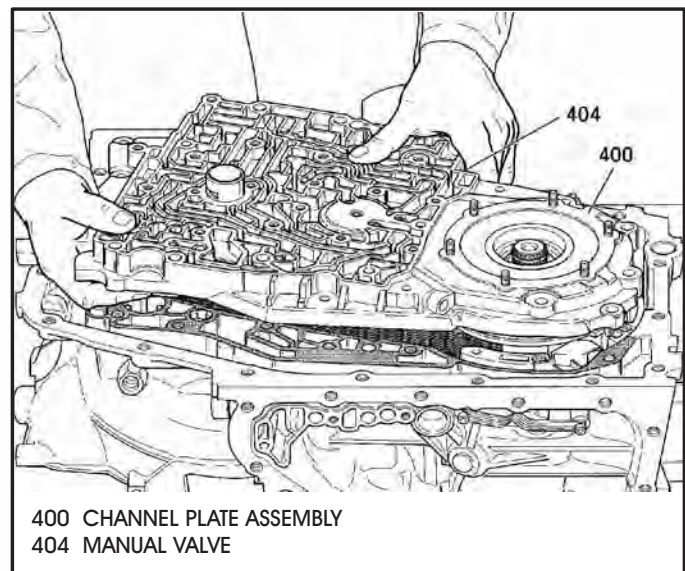

Figure 60
34. Remove the remaining channel plate to case retaining bolts, shown in Figure 57, and lift off the channel plate while ensuring manual valve is held in place, as shown in Figure 60.
36. Remove and discard the channel plate to case gaskets (See Figures 60 and 61).